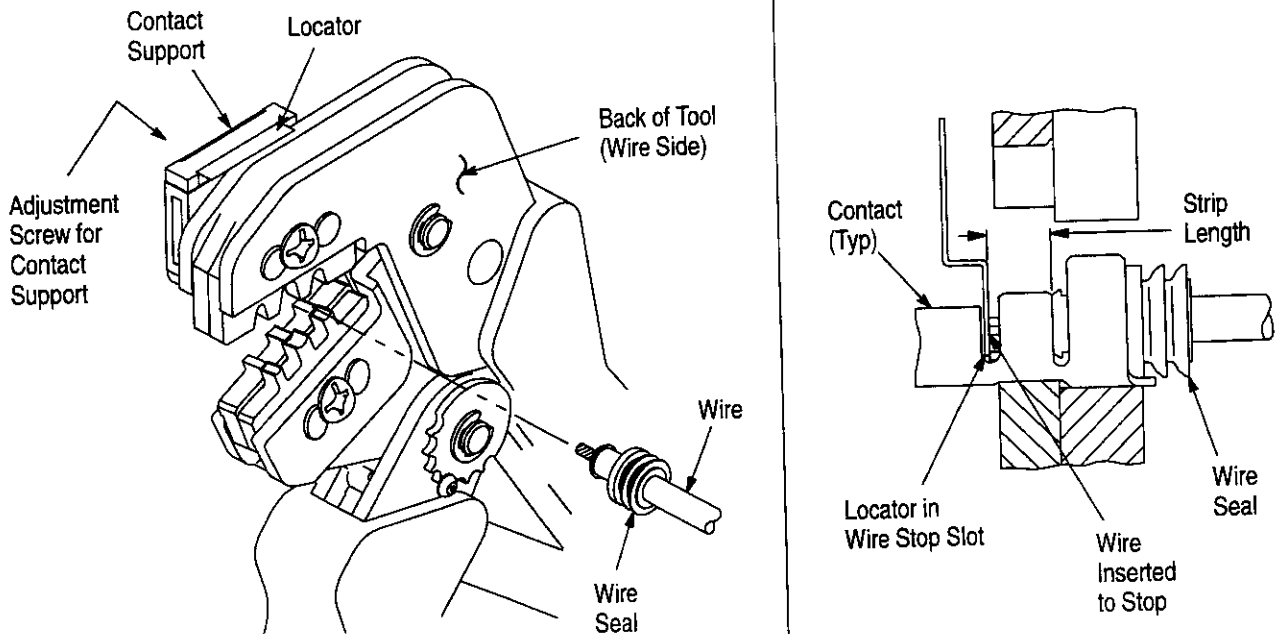

Figure 3
**4. CONTACT SUPPORT ADJUSTMENT (Figure 3)**
Refer to the table in Figure 1 and select wire of the specified size and insulation diameter. Assemble applicable wire seal onto wire according to the instructions packaged with the contact. Strip the wire to the length indicated in Figure 1, taking care not to nick or cut wire strands. Select an applicable contact and identify the appropriate crimping chamber according to the wire size markings on the tool. Refer to Figure 3 and proceed as follows:
3. Position the contact so that the mating end of the contact is on the locator side of the tool, and so that the open “U” of the wire and insulation barrels face the top of the tool. Place the contact up into the nest so that the movable locator drops into the slot in the contact. Refer to Figure 3. Butt the front end of the wire barrel against the movable locator.
5. Insert stripped wire (with wire seal) into contact insulation and wire barrels until it is butted against the wire stop, as shown in Figure 3.
The crimped contact may stick in the crimping area, but the contact can be easily removed by pushing downward on the top of the locator (see Figure 3).